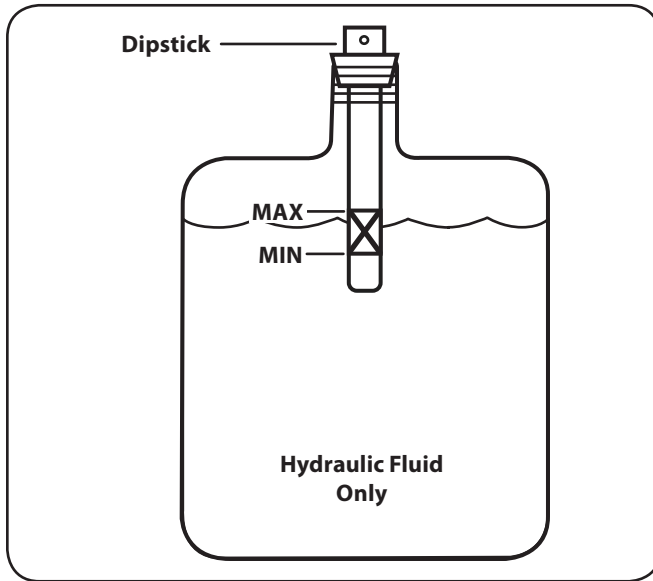

Figure 6-3
11. If necessary Refill the reservoir within range marked on the dipstick. See Figure 6-3.